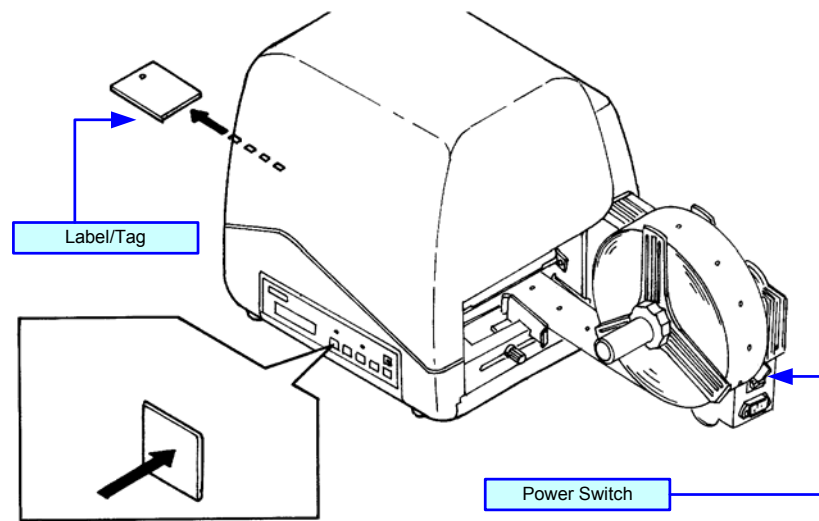

Figure 3-3f, Media Loading
- 9 Restore power and test print label (**Figure 3-3f**).